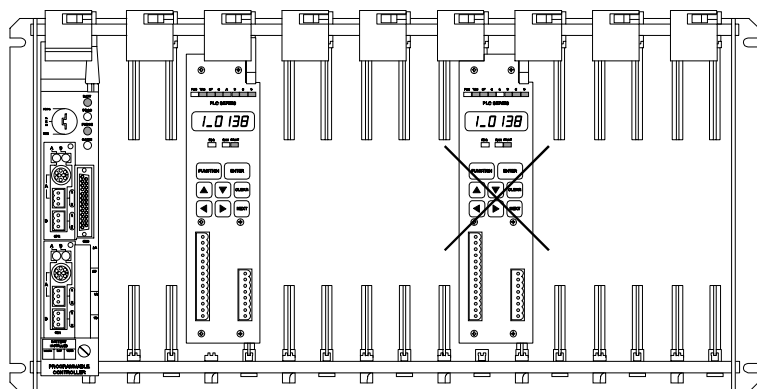

Figure 3.1 Module Installation
2. Open the module locking latch on the I/O chassis shown in Figure 3.1.
NOTE: In Figure 3.1, the module on the left is installed correctly in a single slot pair, while the module on the right is incorrectly installed in two slot pairs.